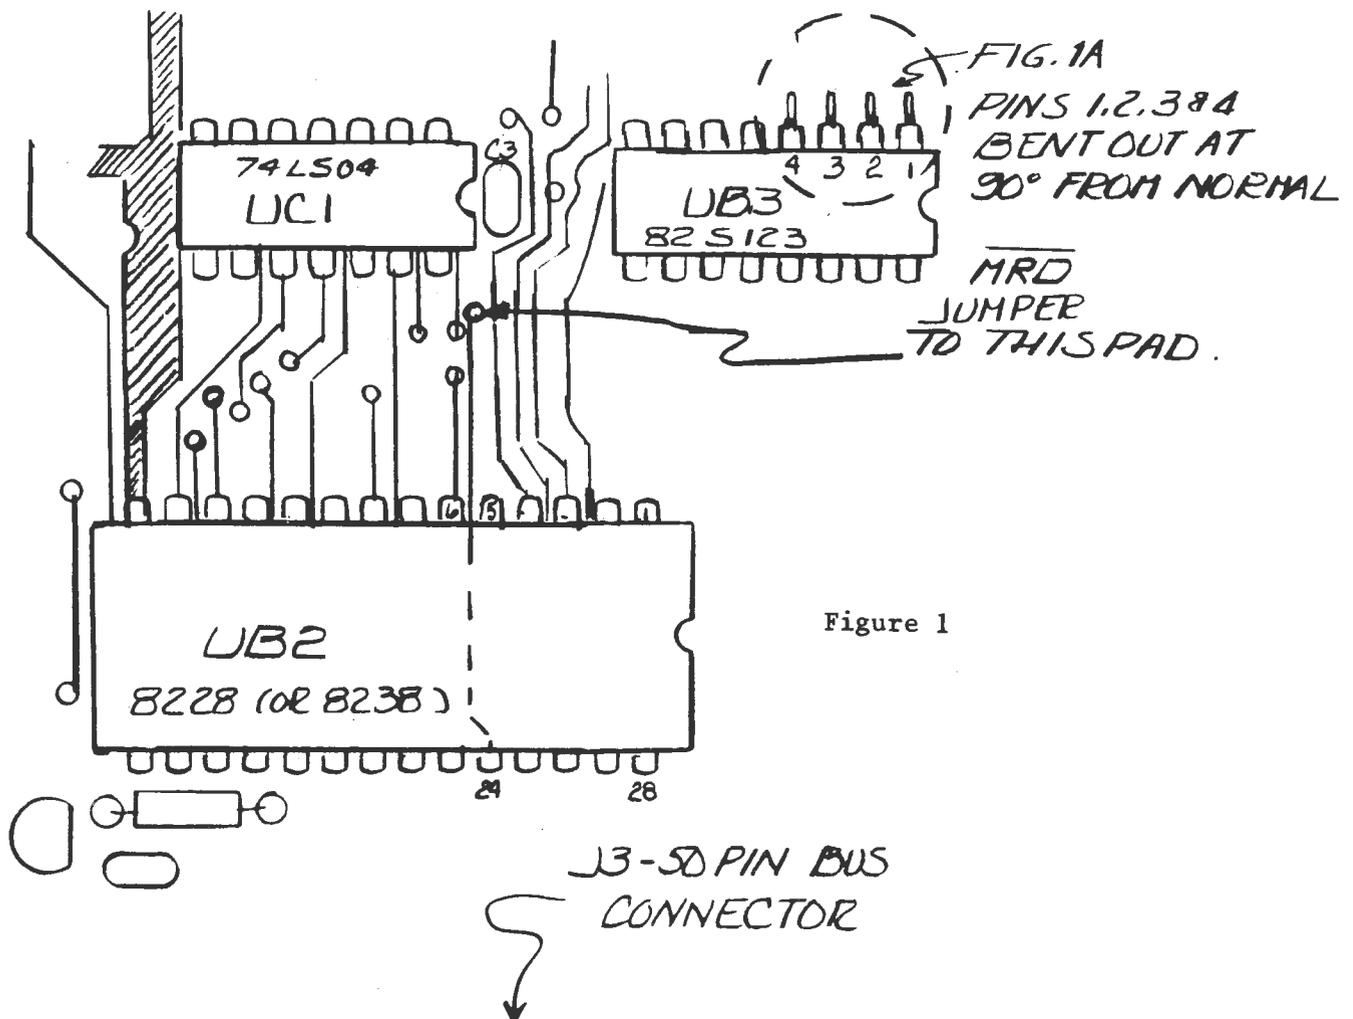

Figure 1
(8) Locate the feed-thru pad shown in Figure 1. Connect a wire from the MRD pad on the RAM board to this point.
(9) Double check your work. Pay close attention to the UB3 and UA2 chips to be sure that you have not shorted two adjacent pins together when you soldered the wires to them.
(10) Re-assemble the computer. Remember to reconnect all of the cables removed during the disassembly. The logic board is supported at the rear by two tabs that fit into slots in the rear cover. Be sure to get these in place.